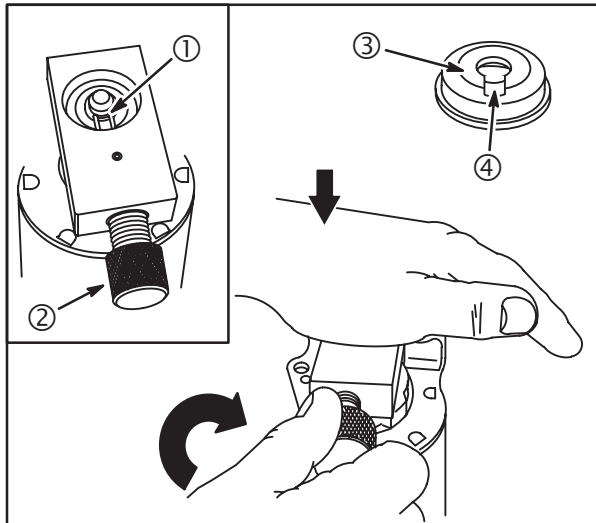

Fig. 7
1. Place the counterbored side of C-ring Remover #19436 (2) over retainer. Align drive pins (1) with open end of C-ring, **Fig. 7**.